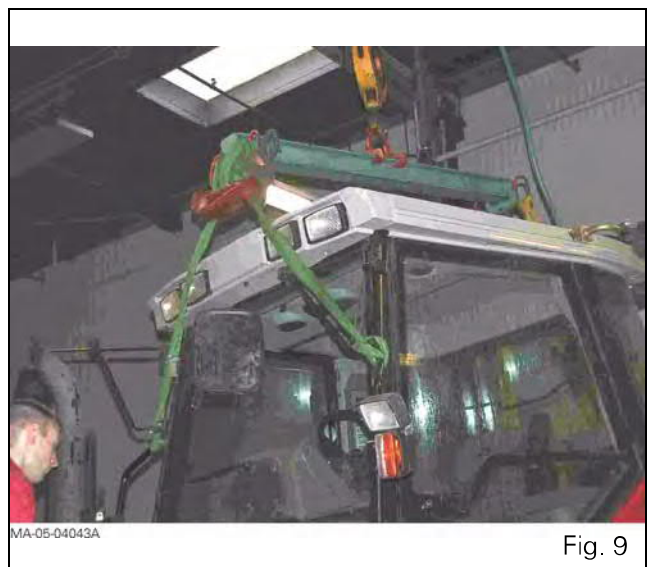

Fig. 9
9. Attach the cab to a suitable hoisting system and lift it off. (Fig. 9)